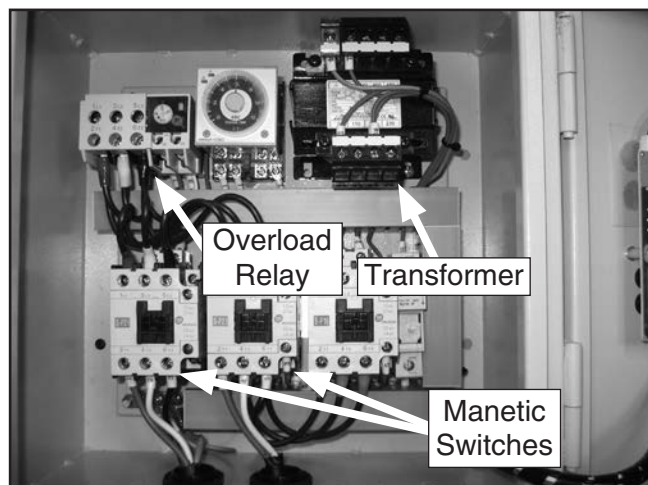

Figure 6. Model G0638 control box overload relay, magnetic switches, and transformer.
2. Open the control box and identify the overload relay and the transformer (see **Figure 6**).
5. Remove the motor cords from the two magnetic switch assemblies in the control box (see **Figure 6**) and install the new motor cords.